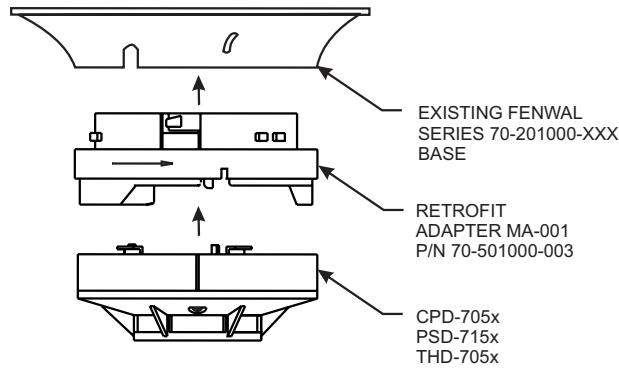

Figure 8. Installing Mechanical Adapter MA-001
1. Align the components as shown in Figure 8.